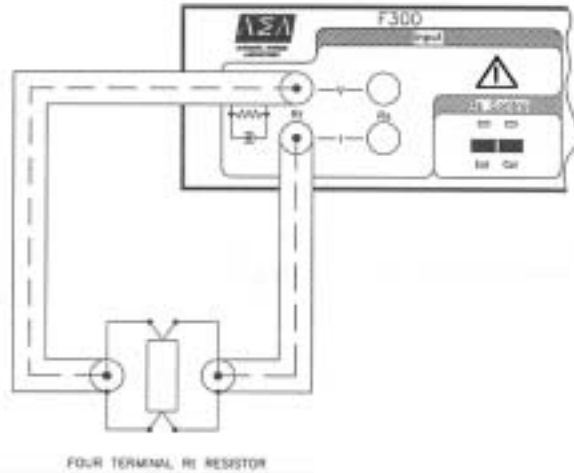

Figure 3-2 F300 Set-up for initial checks
- 3.2.1 Connect a stable four terminal resistor in the range 10 to 400 ohms, to the Rt connectors, as shown in. Figure 3.2 F300 Set-up for initial checks. Select 1mA current, high sensitivity, auto, direct mode and ratio units. Depress and hold the three sensitivity switches, switch the instrument on and hold the switches until the message "CLEAR" is shown. This will clear the instrument's non-volatile RAM of any settings left over from testing.